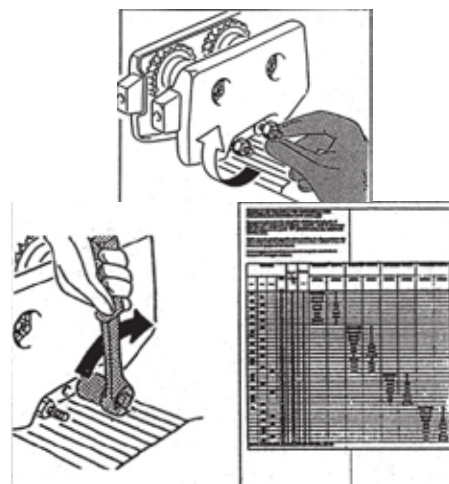

fig.24
2. After passing over the lower flange of the beam with the wheels of the trolley, close the plates and screw the nuts of the tie rods as far as they will go, but without tightening them. (fig.24)
4. Tighten the tie-rod nuts to the torque specified in the relevant table (TIE ROD TABLE). (fig.24)